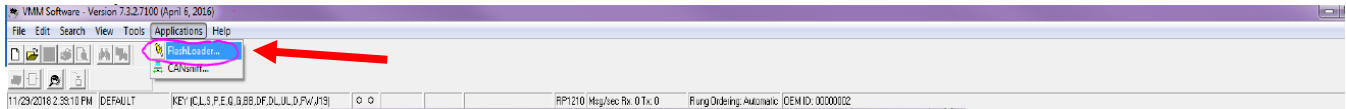

Figure 1: FlashLoader location
- a. To open flash loader open the VMM software and click Applications → click FlashLoader. See figure 1.